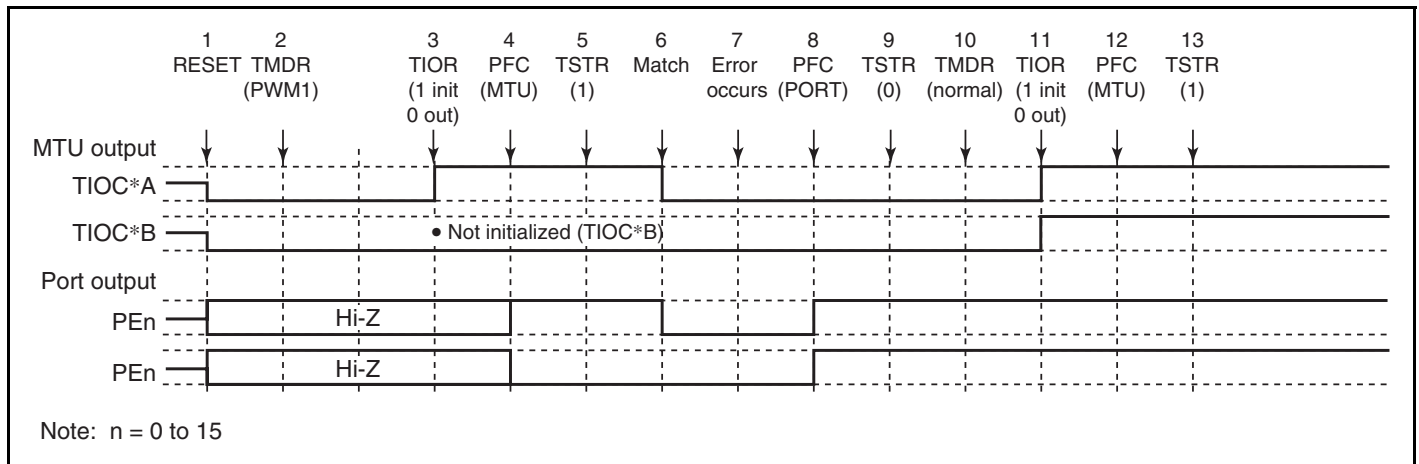

Figure 10.64 Error Occurrence in PWM Mode 1, Recovery in Normal Mode
(5) Operation when Error Occurs during PWM Mode 1 Operation, and Operation is Restarted in Normal Mode: Figure 10.64 shows an explanatory diagram of the case where an error occurs in PWM mode 1 and operation is restarted in normal mode after re-setting.
1 to 9 are the same as in figure 10.64.
- 1 to 9 are the same as in figure 10.64.